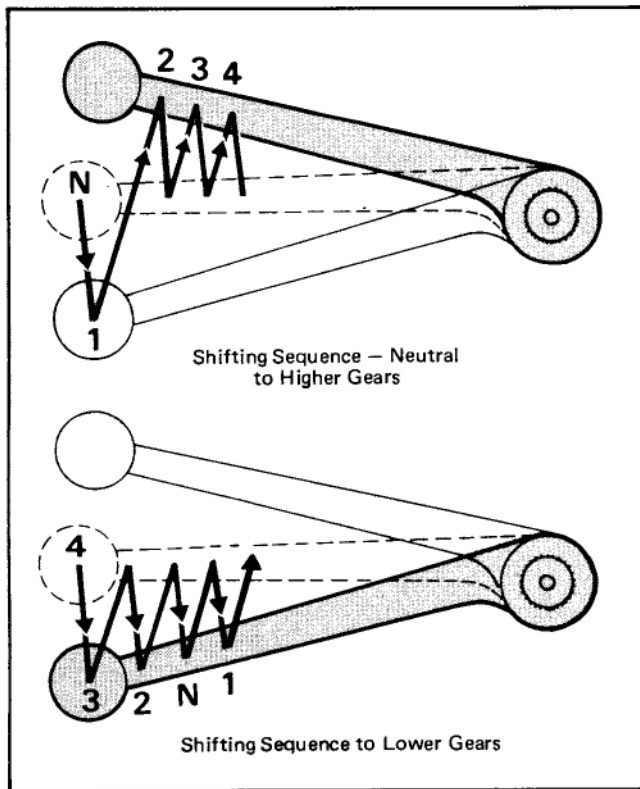

Figure 1. Shifting
1. To start moving with motorcycle upright and engine idling, pull the clutch lever (located on left handlebar) to fully disengage clutch. Push shifter lever down firmly but gently to end of its travel to engage first gear (see Figure 1). Then release the clutch lever slowly to engage the clutch and at the same time, open throttle gradually.